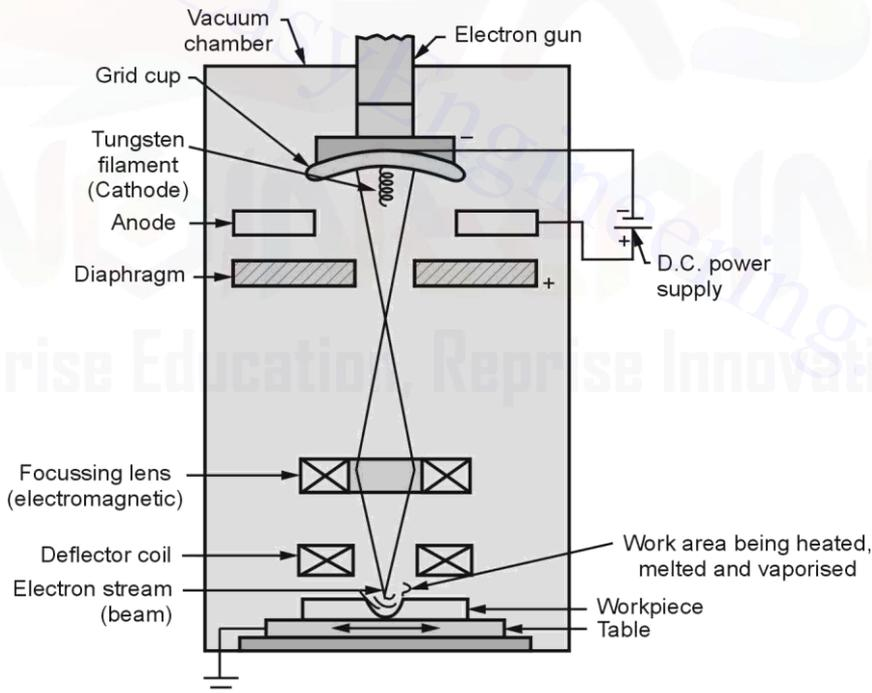

Fig. 2.21 : Electron beam machining
- Fig. 2.21 shows the set up for Electron Beam Machining. The complete setup is enclosed in a vacuum chamber having vacuum of order  $10^{-5}$  mm of Hg.
- Tungsten filament acts as a cathode, as it is connected to negative terminal of D.C. supply and positive terminal is connected to anode as shown in Fig. 2.21.